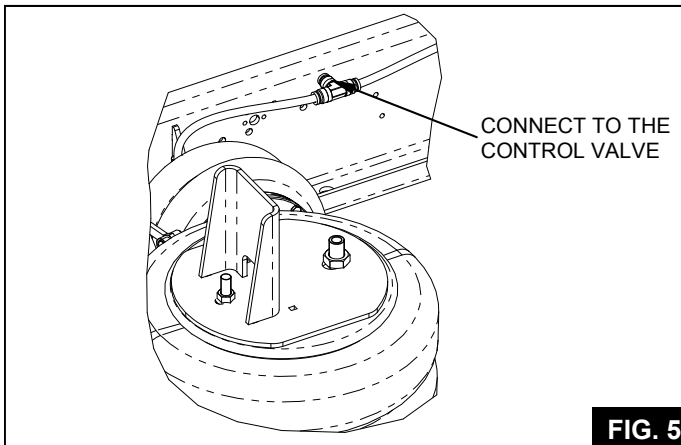
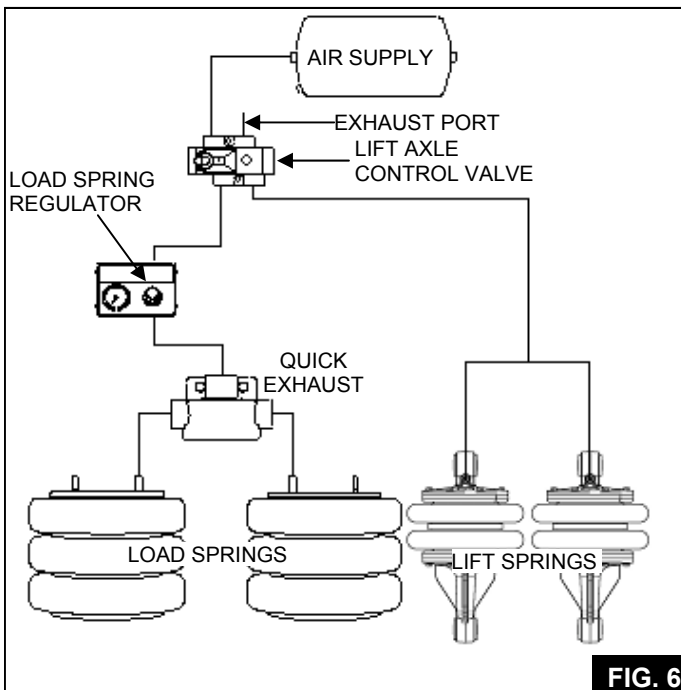

FIG. 5
FIG. 6
11.1 Connect the fitting in **Fig. 5** to the port on the lift axle control valve that lifts the suspension. See **Fig. 6** for details.
11.2 Connect the control box to the quick release valve used on the load springs. See **Fig. 6** for details.